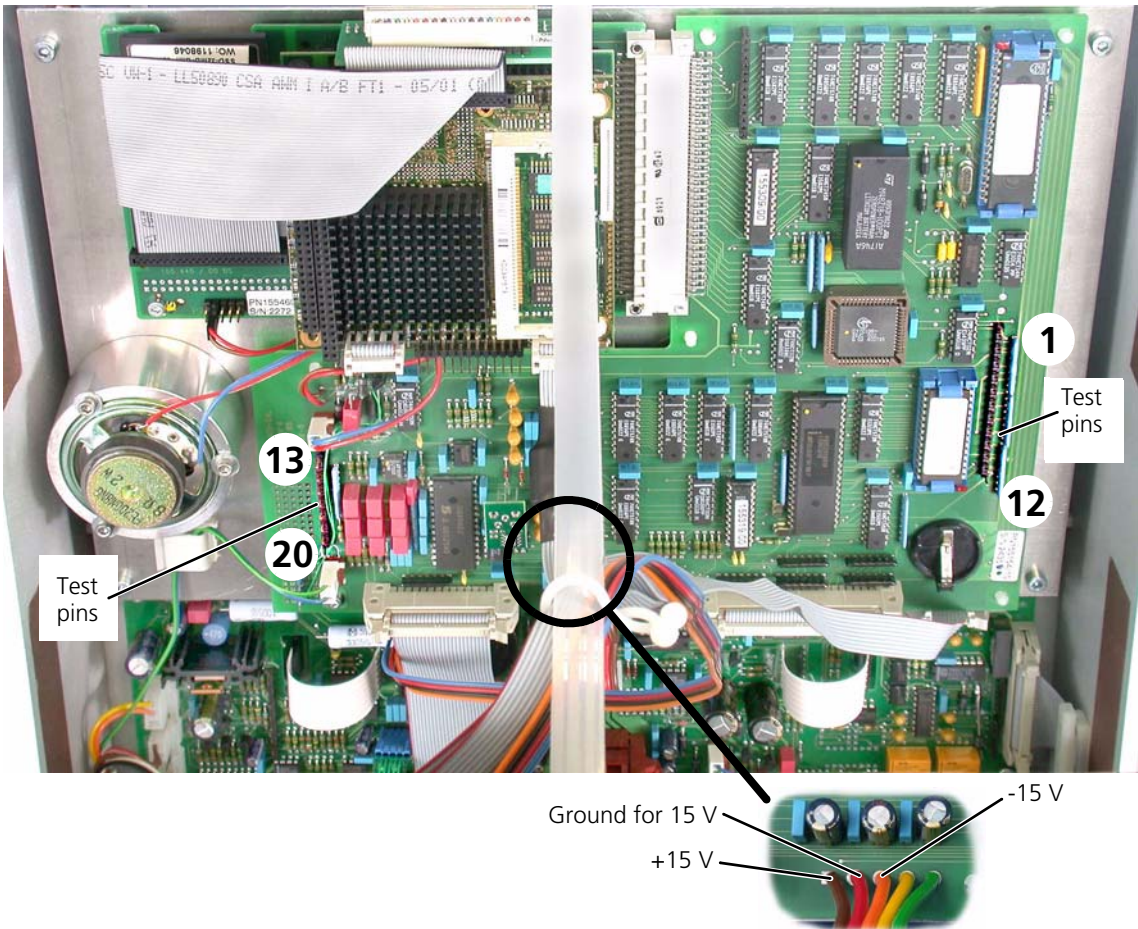

Figure 7-5. Test pins on control board PN 155154/xx
- 1. Locate the test pins 1–12 and 13–20. Neither set is numbered on the board. (Figure 7-5.)
- 2. Locate the soldered connections on the cable to the connector board. These are shown in detail below the main photograph in Figure 7-5.